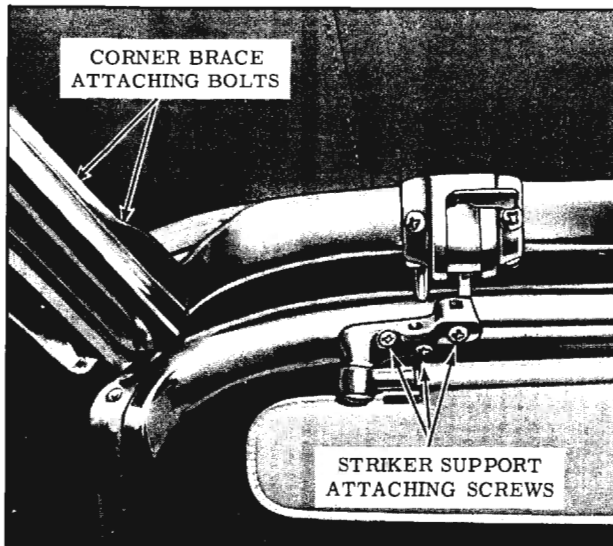

Fig. 16-105 Engaging Roof Header With Striker
2. Loosen striker support attaching screws and adjust striker laterally as required; then tighten attaching screws. (Fig. 16-105)